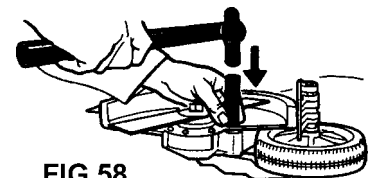

FIG 58
! NOTE Bearing must be forward to allow pinion bearing pin to be fitted, then pinion and bearing forced back onto pinion bearing pin. If this is not done, pinion or crown gear could be tight. Correct distance is 6mm (.236") Fig. 58.
8. Check and renew O' ring #40906 if necessary. Fit assembly into housing. If bearing is loose in housing, smear loctite around bearing before assembling. Carefully drive down (making sure gears are meshing) by gently tapping around bearing area (Fig. 58) and turning clutch drum. Refit 6 screws around shaft.